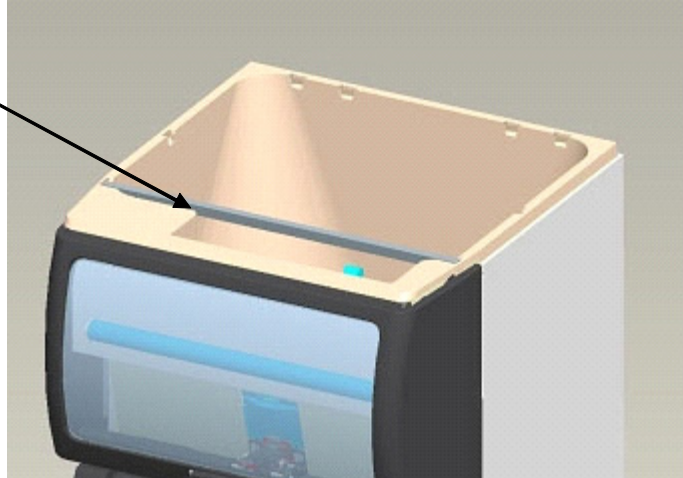

FIGURE 2
2. Place ice maker rail supports into the pockets in the ice bin as shown in Figure 2.